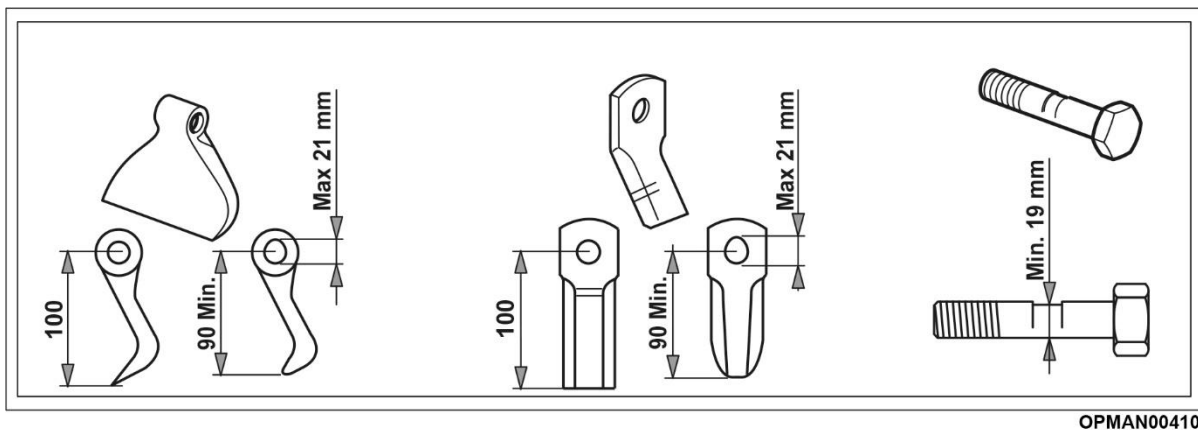

Figure 19
For worn flails and bolts (see Figure 19):
- The special bolts must be replaced to fasten the flails if visibly damaged, bent or ovalized to the limit (see Figure 19).